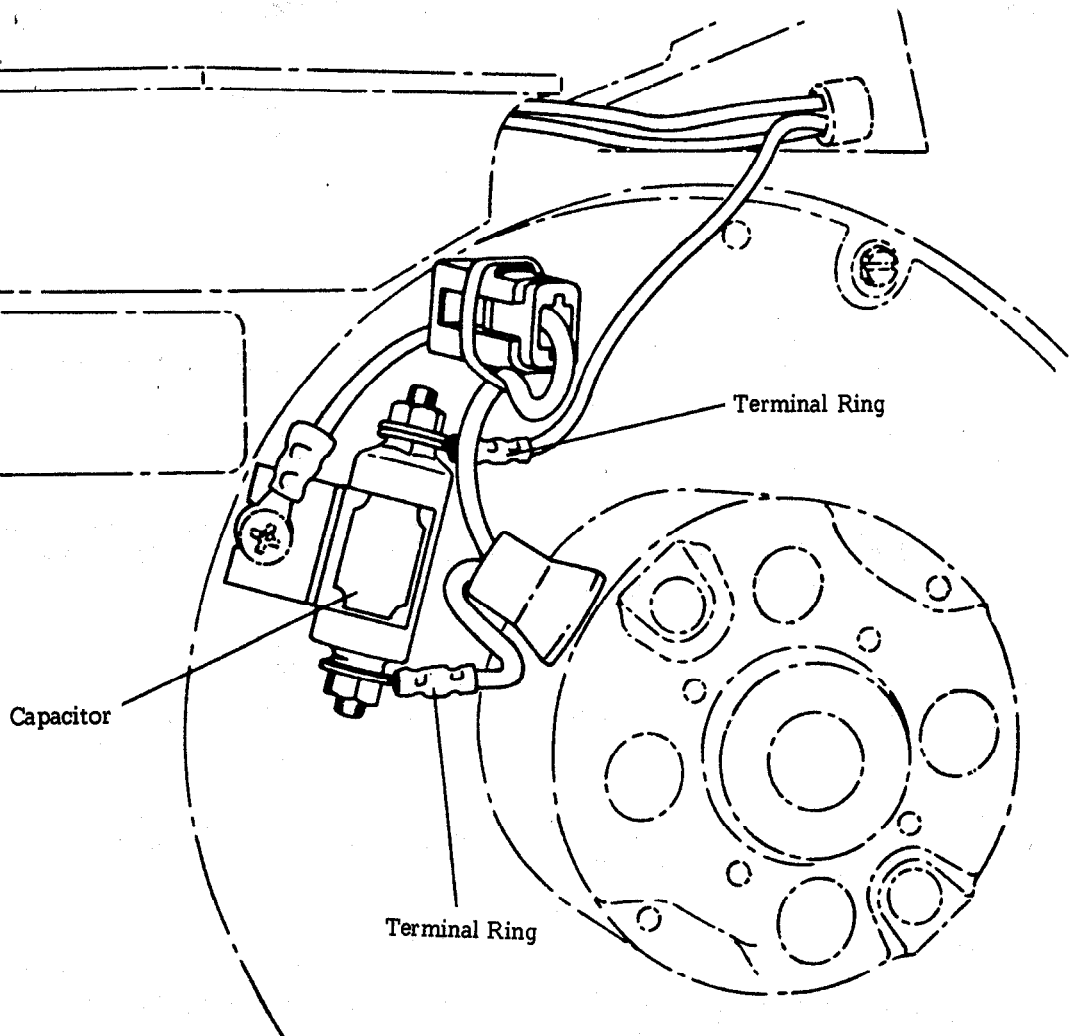

FIG 1 - MOUNTING OF CO-AXIAL CAPACITOR
- Trim 10 mm off the end of the capacitor, item 1 from Table 1, mounting tail
- Crimp suitable 3/16 inch terminal rings to the ends of the power lead, as illustrated in Fig 1, and fit the leads to the capacitor.